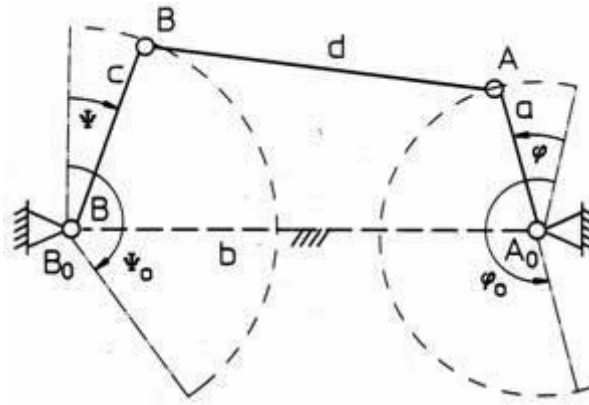

Fig. 1.9 Double rocker (Four-bar linkage) A, B rockerpins ;  $A_0$  ,  $B_0$  rocker bearings  $\varphi$ ,  $\Psi$  rocker angles
**If the longest link ( $l_{\max}$ ) is fixed (Fig. 1.9) a non-revolving double rocker is obtained. Each rocker has two dead centers. A dead center appears if a rocker and the connecting link form a common line.**